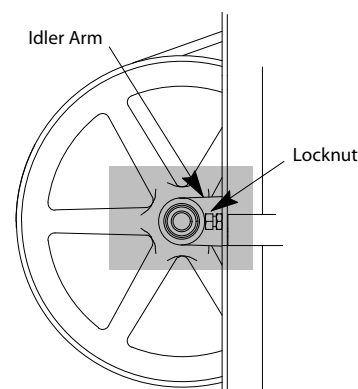

Figure 6 - Locknut Adjustment Screw
7. Check and adjust, as necessary, the tension of the 3 V belts between the drive wheel and the jack shaft sheave. See Figure 6.